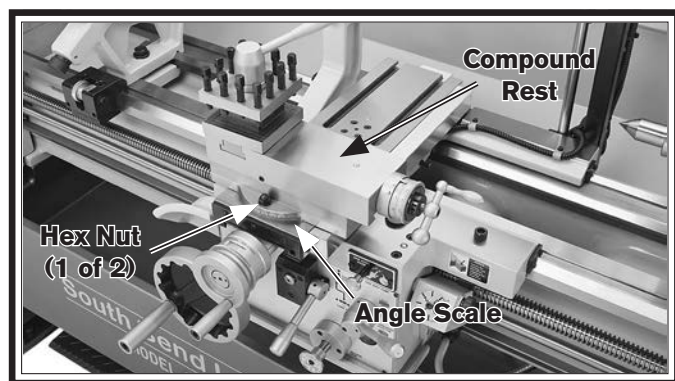

Figure 65. Compound rest.
1. Loosen the two hex nuts at the base of the compound rest (1 of 2 shown in **Figure 65**).